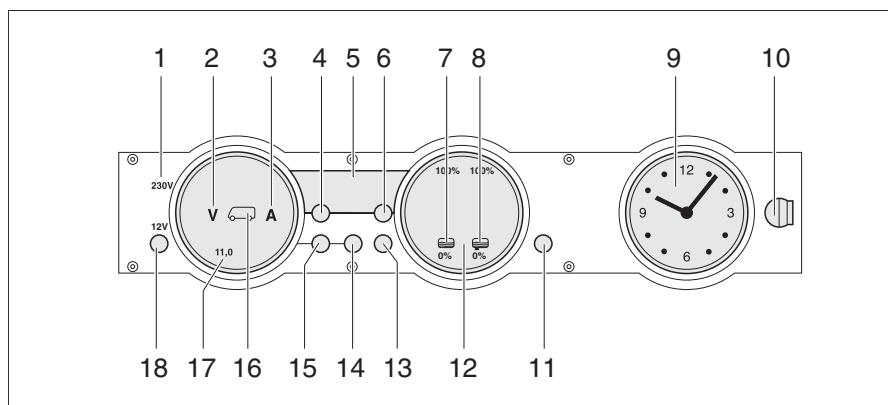

Fig. 270 Panel MP 20-T
The 230 V indicator lamp (Fig. 270,1) lights up whenever line voltage is available at the transformer/rectifier input.
The 12 V main switch (Fig. 270,18) switches the panel and the 12 V power supply of the living area on and off.
- Briefly press the "12 V" button (Fig. 270,18). The 12 V living area power supply is switched on. The "12 V" indicator lights up.
- ▷ If, after switching on, the "11.0" LED of the volt indicator and the "V" volt symbol (Fig. 270,2) in the batteries gauge (Fig. 270,17) flash, the voltage of the living area battery is too low. Charge battery.
- ▷ If, after switching on, the "12 V" indicator, the symbol for the living area battery (Fig. 270,16) and the "V" volt symbol (Fig. 270,2) flash three times, battery separation is activated. Deactivate battery separation.
- Briefly press the "12 V" button (Fig. 270,18). The 12 V living area power supply is switched off. The "12 V" indicator goes out.
- Press button for living area battery (Fig. 270,14) and hold it down for approx. 10 seconds. The "V" volt (Fig. 270,2) and "A" ampere (Fig. 270,3) symbols flash three times. The living area battery is disconnected from the 12 V power supply.
- Press the "12 V" button (Fig. 270,18) and hold it down for approx. 5 seconds. The "V" volt symbol (Fig. 270,2) flashes three times. The living area battery is connected to the 12 V power supply. The indicator lights up after approx. 2 seconds.
- Press button for living area battery " (Fig. 270,14). The "V" volt symbol (Fig. 270,2) lights up. Depending on whether the battery is being charged or discharged, the "A" ampere symbol lights up white or red respectively. The battery voltage and current of the living area battery are displayed using the LEDs in the gauge.
- Press button for starter battery " (Fig. 270,15). The "V" volt symbol (Fig. 270,2) lights up. The battery voltage of the starter battery is displayed using the LEDs in the gauge.
- Press the tanks button  (Fig. 270,13). The water tank  (Fig. 270,7) and waste water tank  (Fig. 270,8) symbols light up. The fill level of the water tank (left-hand scale) and the waste water tank (right-hand scale) are indicated using the LEDs in the gauge.
The "V" volt symbol (Fig. 270,2) and the "11.0" LED flash as soon as the battery voltage falls below 11 V (measured during operation) and there is the threat of a total discharge.
The water tank symbol  (Fig. 270,7) or waste water tank symbol  (Fig. 270,8) flashes when the water tank is empty or the waste water tank is full.